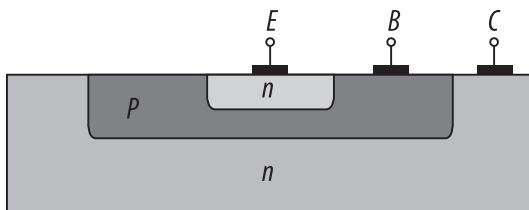

Figure 86-1. Parts of an NPN transistor
A simple silicon transistor, called an NPN, is used to make the electronic switches that are the building block of computers. The NPN transistor consists of three pieces of silicon known as the base (often written B), collector (C), and emitter (E), as shown in Figure 86-1.